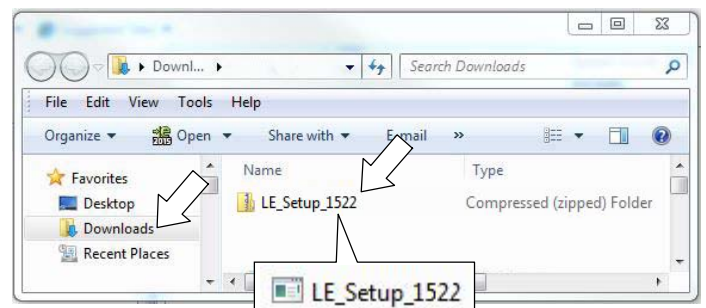

Fig. 20
6. Open the “Downloads” folder and locate the “LE\_Setup\_ xxxx” zip file. Open the zip file and double click on the “LE\_Setup\_ xxx” file to install the application software on your computer (Figure 20). Follow instructions on screen to install.